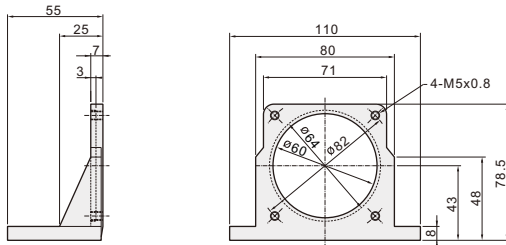

Fig. 5
4. To assemble the motor and the gear head together, the bolts should be crossed and fixed (refer to Fig. 5)